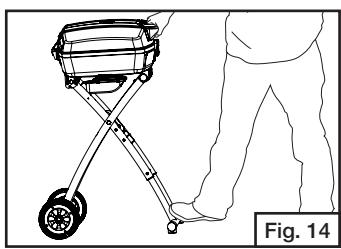
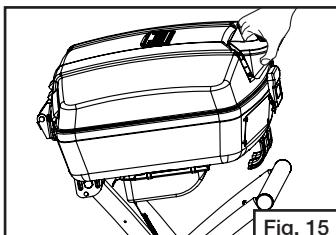
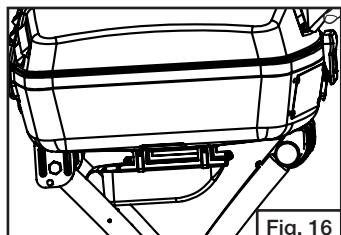

Fig. 14
Fig. 15
Fig. 16
- Lower grill and slide grill back until leg extensions lock into brackets on bottom of grill stand. (Fig. 14, Fig. 15 and Fig. 16)